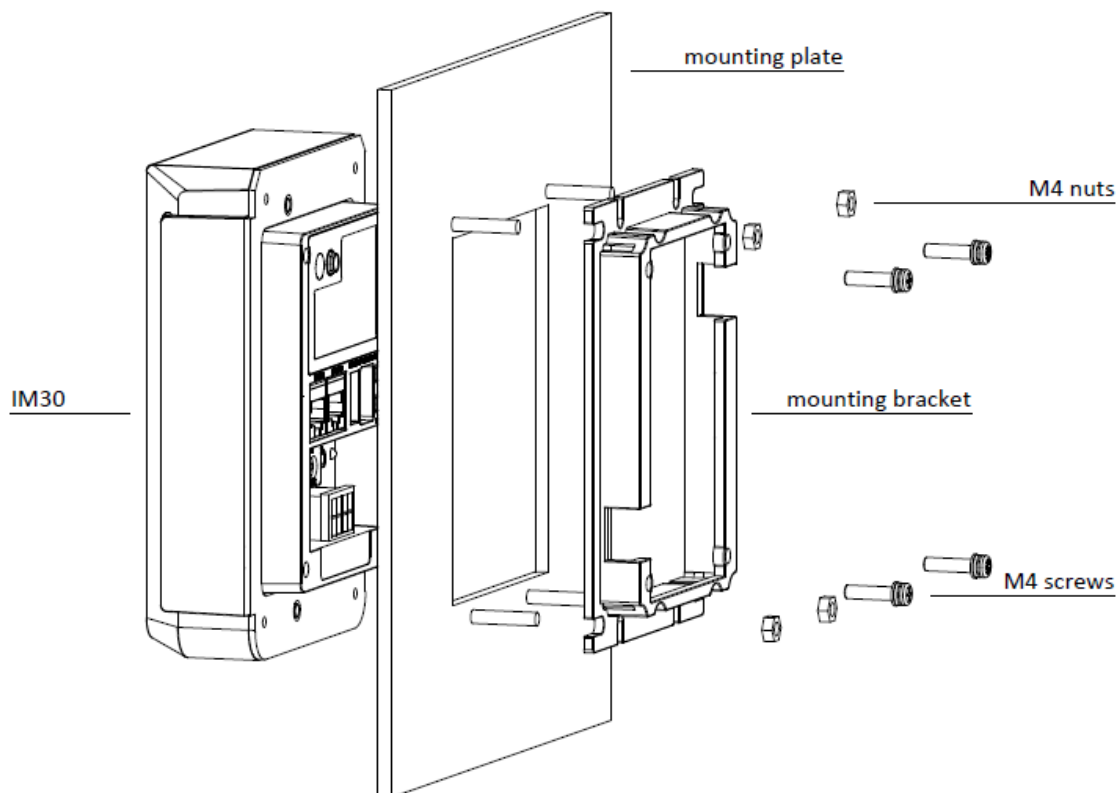

Figure 9: device installation
- 2) The back face of the mounting plate should have four stud bolts corresponding to the mounting points located on mounting bracket. Slide the mounting bracket into place with the orientation shown in Figure 9: device installation and then fix it in place with four M4 nuts.
- 3) Slide the IM30 unit into the mounting plate with the orientation shown in figure 9. The back portion of the device should rest securely inside the mounting bracket.